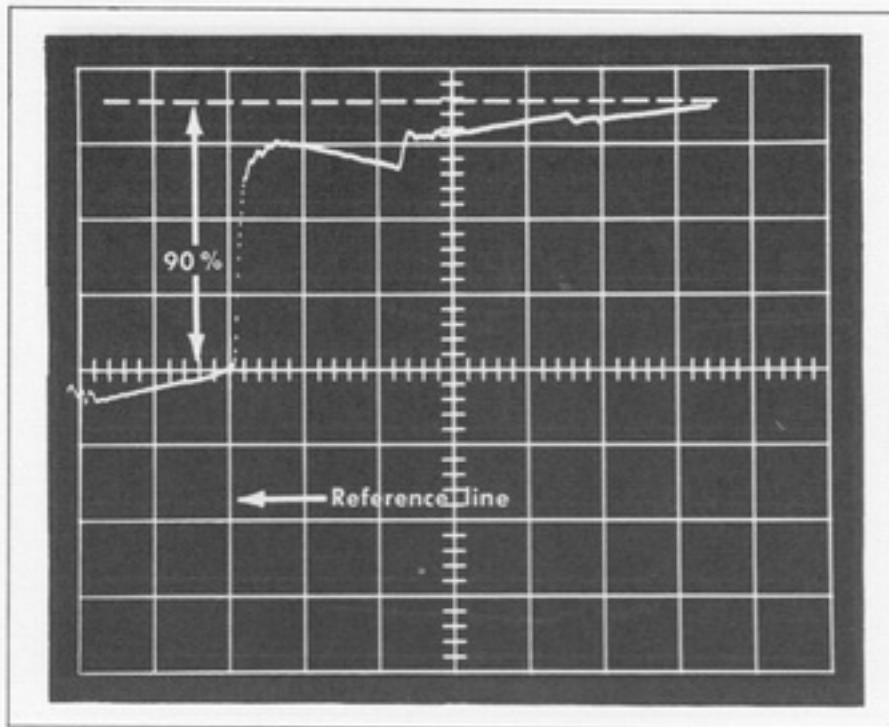

Fig. 2-12. Establishing the turn-off reference line from the 90% level of the switching-pulse trailing edge.
3. Readjust the oscilloscope sweep rate to display the switching-pulse trailing edge as shown in Fig. 2-12. Horizontally position the display so the 90% level coincides with a convenient vertical graticule line. This establishes the turn-off reference line; therefore, do not change the horizontal position of the display during the rest of this procedure.